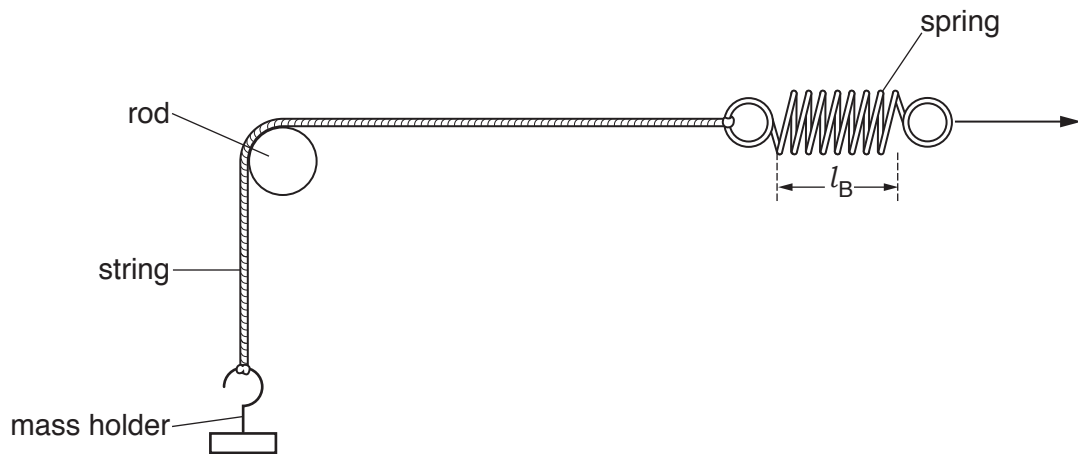

Fig. 1.3
- (i) Hold the free end of the spring so that the string is horizontal, as shown in Fig. 1.3.